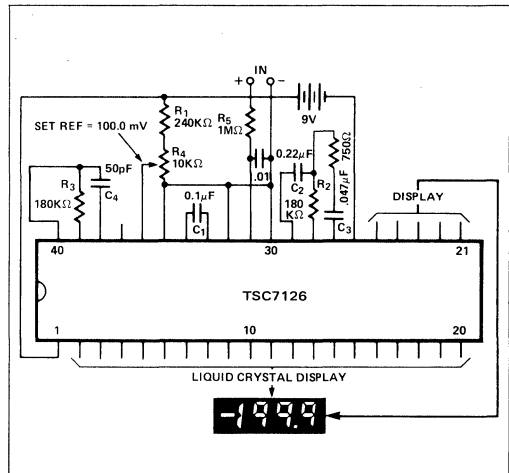

Figure 2: TSC7126 Clock Frequency 48 kHz
- During auto-zero phase, current is 10-20 μA higher. 48 kHz oscillator, Figure 2, increases current by 8 μA (typ.).